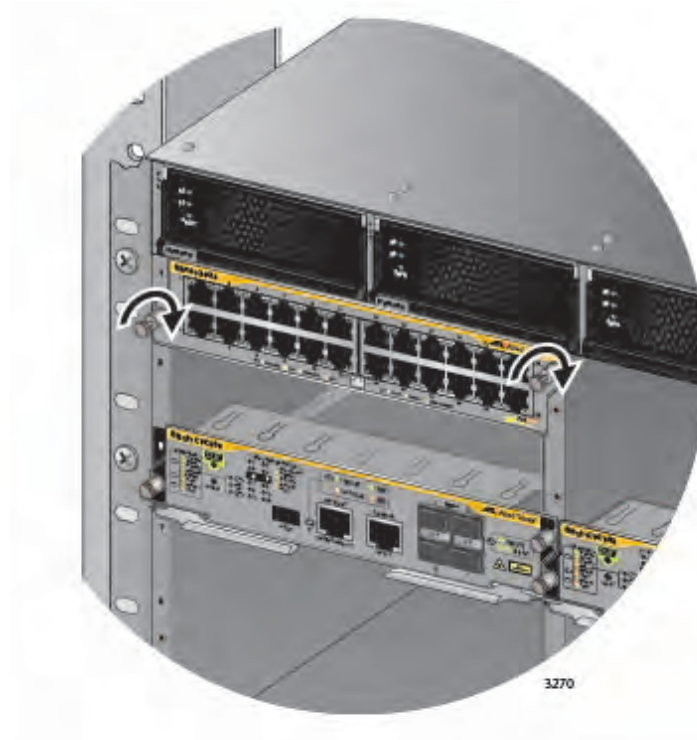

Figure 95. Tightening the Thumb Screws on an Ethernet Line Card
8. Finger tighten the two thumbscrews on the sides of the line card to secure it to the chassis, as shown in Figure 95 on page 166.